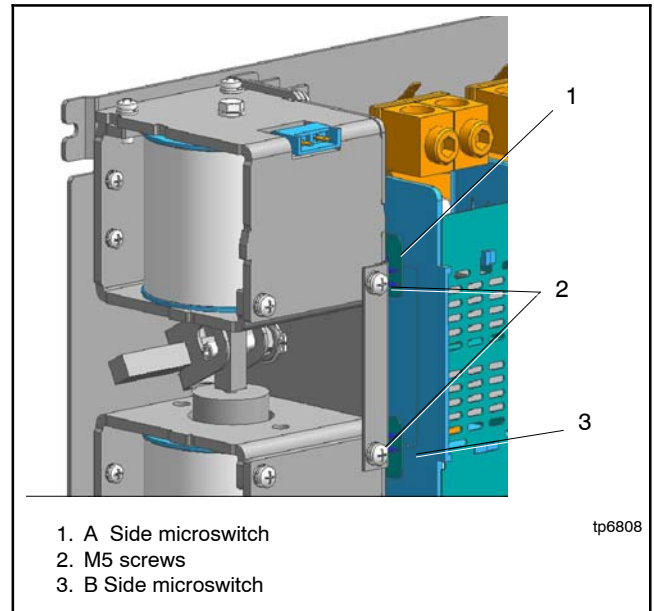

Figure 7-27 Microswitch Disassembly
1. Remove the two M5 screws. See Figure 7-27.